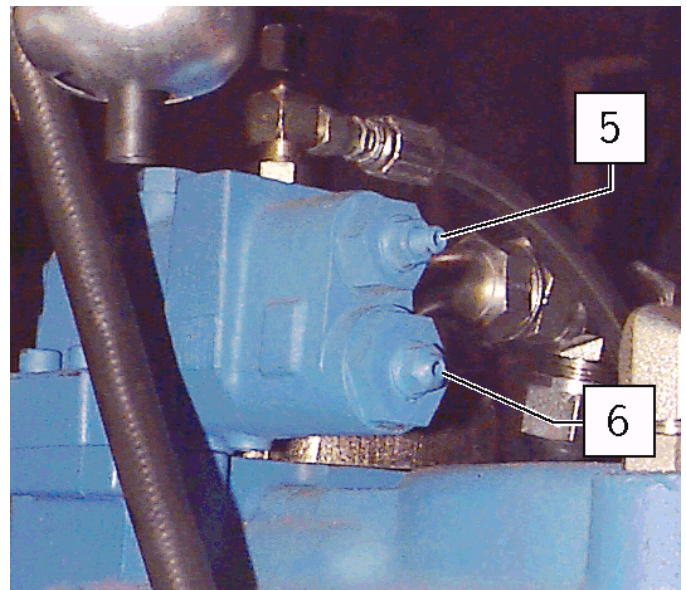

Fig. 7-2 Pump Compensator
3. Place drill/tram switch in TRAM position and set standby pressure to 350 PSI (24 bar) using the upper adjustment screw (item 5, fig. 7-2).
1. Place drill/tram switch in DRILL position and set main pressure to 3000 PSI (207 bar) using the lower adjustment screw (item 6, fig. 7-2).